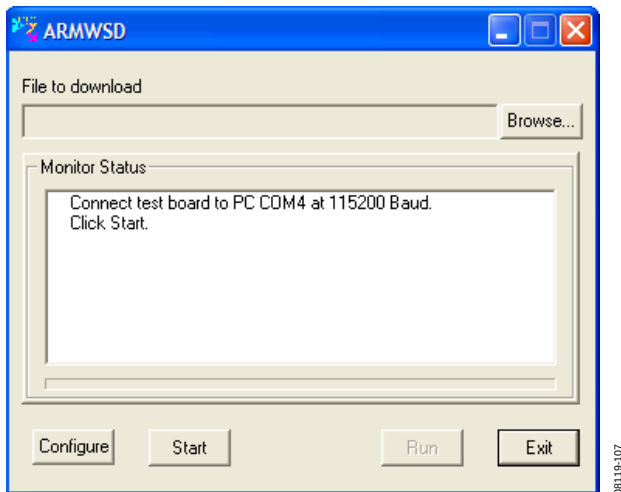
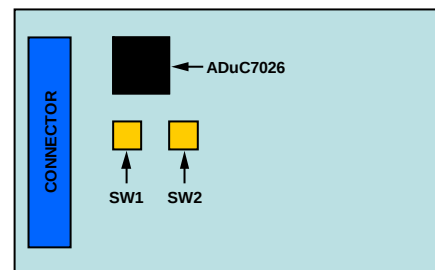

Figure 7. ISEB ARMWSD Firmware Downloader
Figure 9. ISEB Switch Locations for Flashing the Microcontroller
2. Run the **ARMWSD.exe** program located in the **/Drivers/FW/** folder, which displays information about the downloader, as shown in Figure 7.
1. Click **Start**, as shown in Figure 7, to initiate the flashing process. After clicking **Start**, the two buttons on the ISEB shown in Figure 9 must be pressed, in a specific order, to flash the firmware.
The download then begins and is automatically verified by the downloader. If the downloading process fails, which will be indicated in the **Monitor Status** box (see Figure 7), attempt the download again by clicking **Start** and then the appropriate switch combination. It may take a few attempts to reprogram the board successfully.
After the download is completed successfully, click **Run**, as shown in Figure 7, to reset the ISEB and to begin running the new firmware. When this step is complete, the board is updated correctly.
When the system is set up and configured, press **SW2**, which is shown in Figure 9, to reset the ISEB and have it detect the currently connected satellite. This must be done when the satellite connected to the ISEB is replaced by a satellite of a different part only; replacing the satellite with a satellite for the same part, that is, an EVAL-ADXL345Z-S with another EVAL-ADXL345Z-S, does not require **SW2** to be pressed.